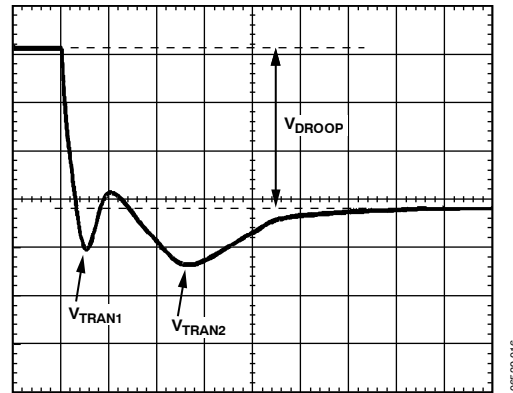
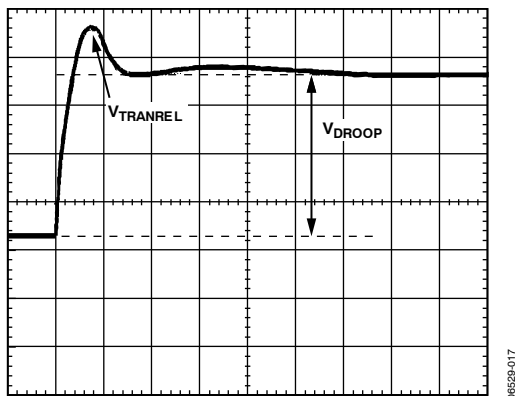

Figure 15. Transient Setting Waveform
Figure 16. Transient Setting Waveform
- With the dynamic load still set at the maximum step size, expand the scope time scale to see 2 μ s/div to 5 μ s/div. The waveform may have two overshoots and one minor undershoot (see Figure 15). Here, V_{DROOP} is the final desired value.
- For load release (see Figure 16), if $V_{TRANREL}$ is larger than V_{TRAN1} (see Figure 15), there is not enough output capacitance. Either more capacitance is needed or the inductor values need to be smaller. If inductors are changed, start the design again using the spreadsheet and this tuning procedure.